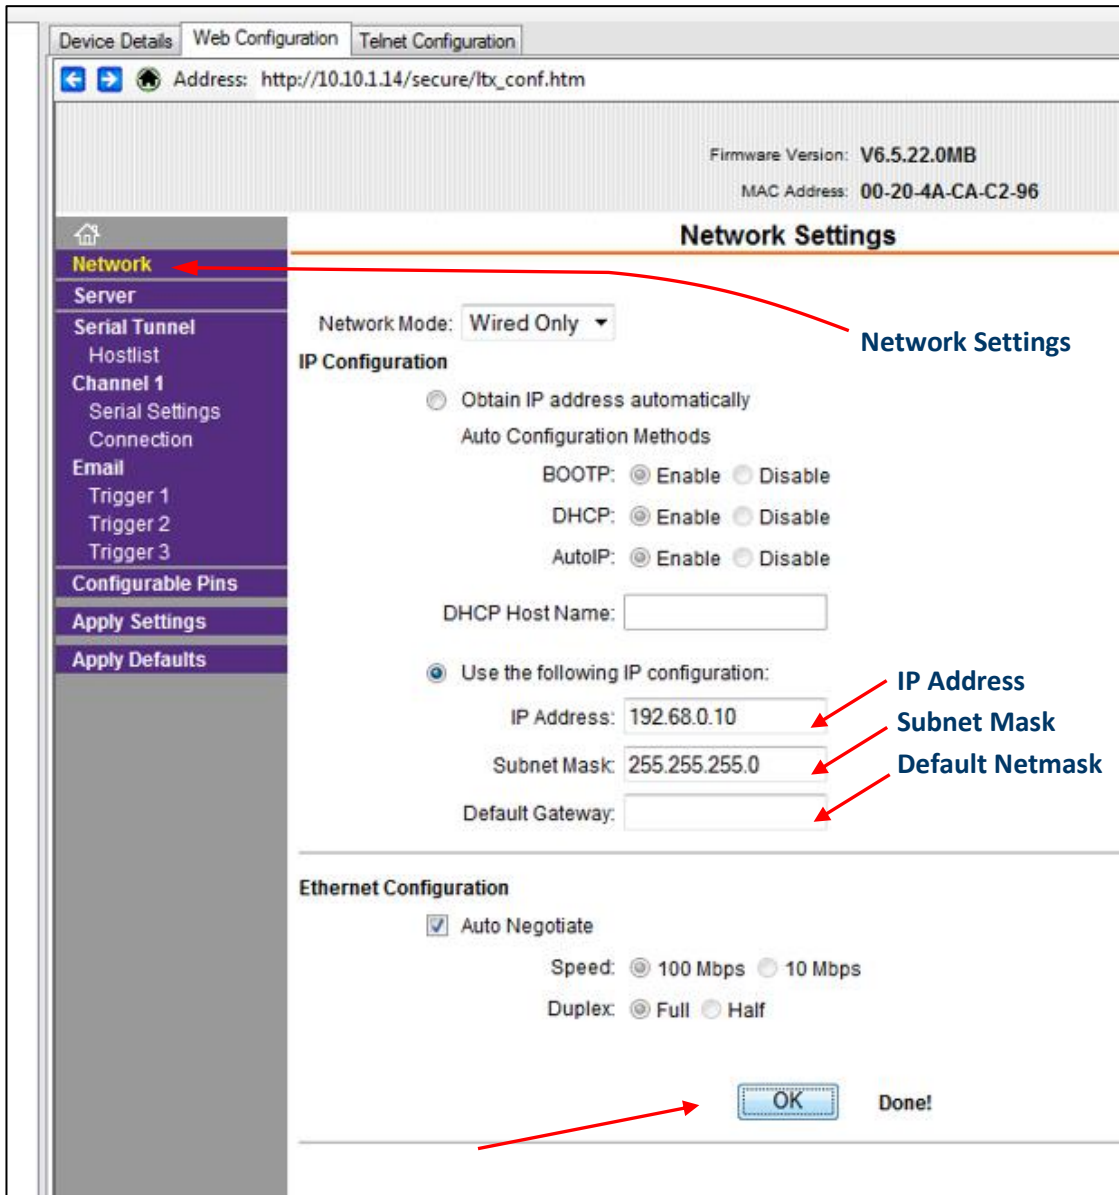

Figure 4-9 Network Settings
- Press the OK button to save the settings. Network Settings will display Done! See Figure 4-9.